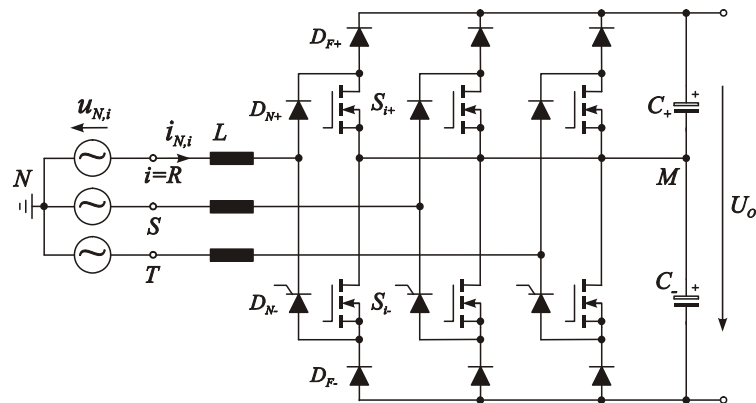

Fig. 1: Structure of the 6-switch Vienna-type PWM rectifier system.
The structure of the implemented 6-switch Vienna rectifier system is shown in Fig. 1. The 6-switch realization shows smaller conduction losses compared to the original Vienna rectifier (VR). Discrete semiconductors (CoolMOS-devices for the switches and SiC-diodes for the free-wheeling diodes) are used.